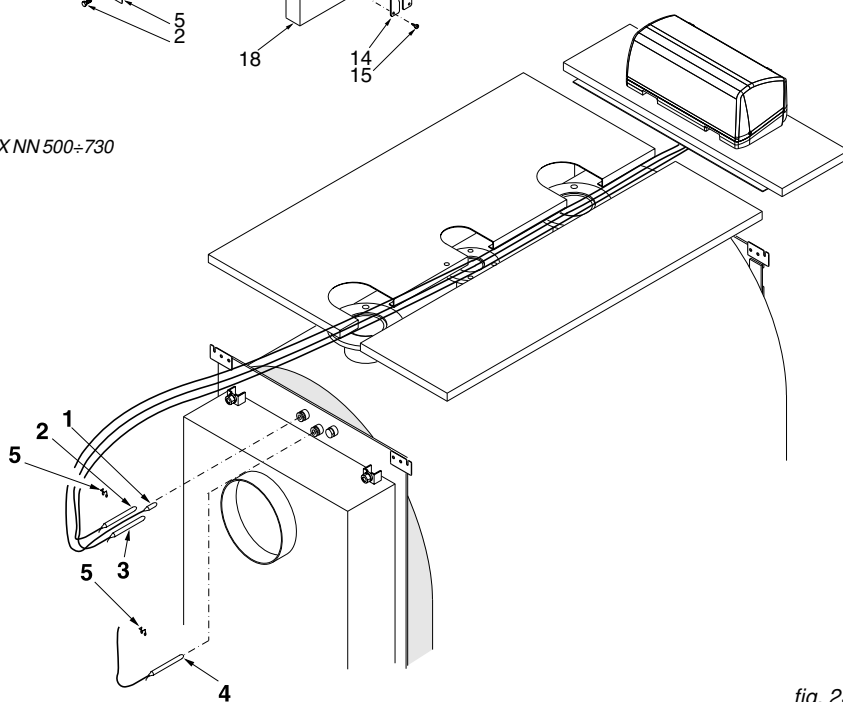

fig. 23
- L) Insert the thermometer and thermostat bulbs in the bulb holders as shown in fig. 23 and connect the mains, the burner, the pump(s) and any ancillary equipment to the panel board.